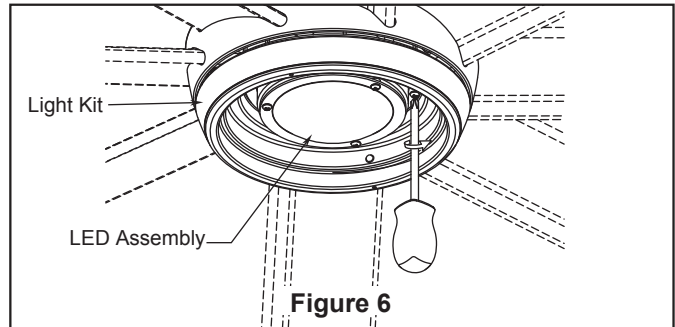

Figure 6
6. Assemble the LED assembly to the light kit using the previously removed screws and secure all three screws. (Figure 6)